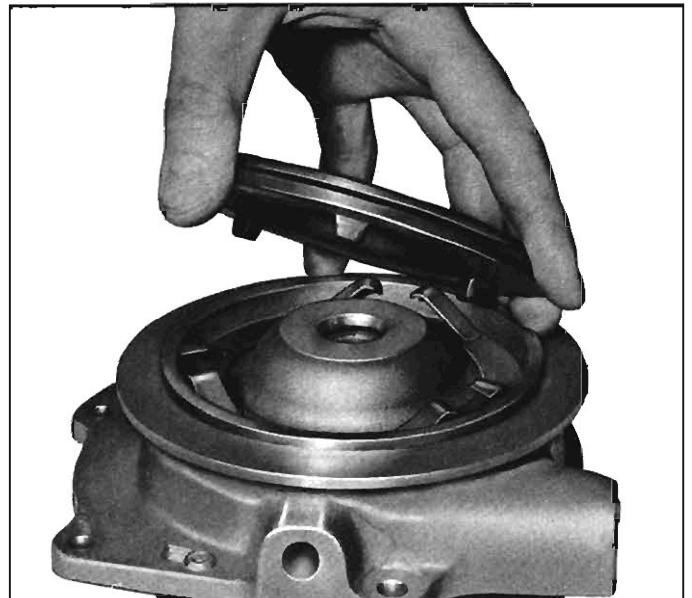

Fig. 50—Heat Shield Spring Ring Installation
10. Turn the bearing housing over (on ring support tool) and install spring ring. Position the turbine shield to install with three projections spaced over flat areas of the spring ring (fig. 50), then install "C" clamps to hold spring ring compressed.